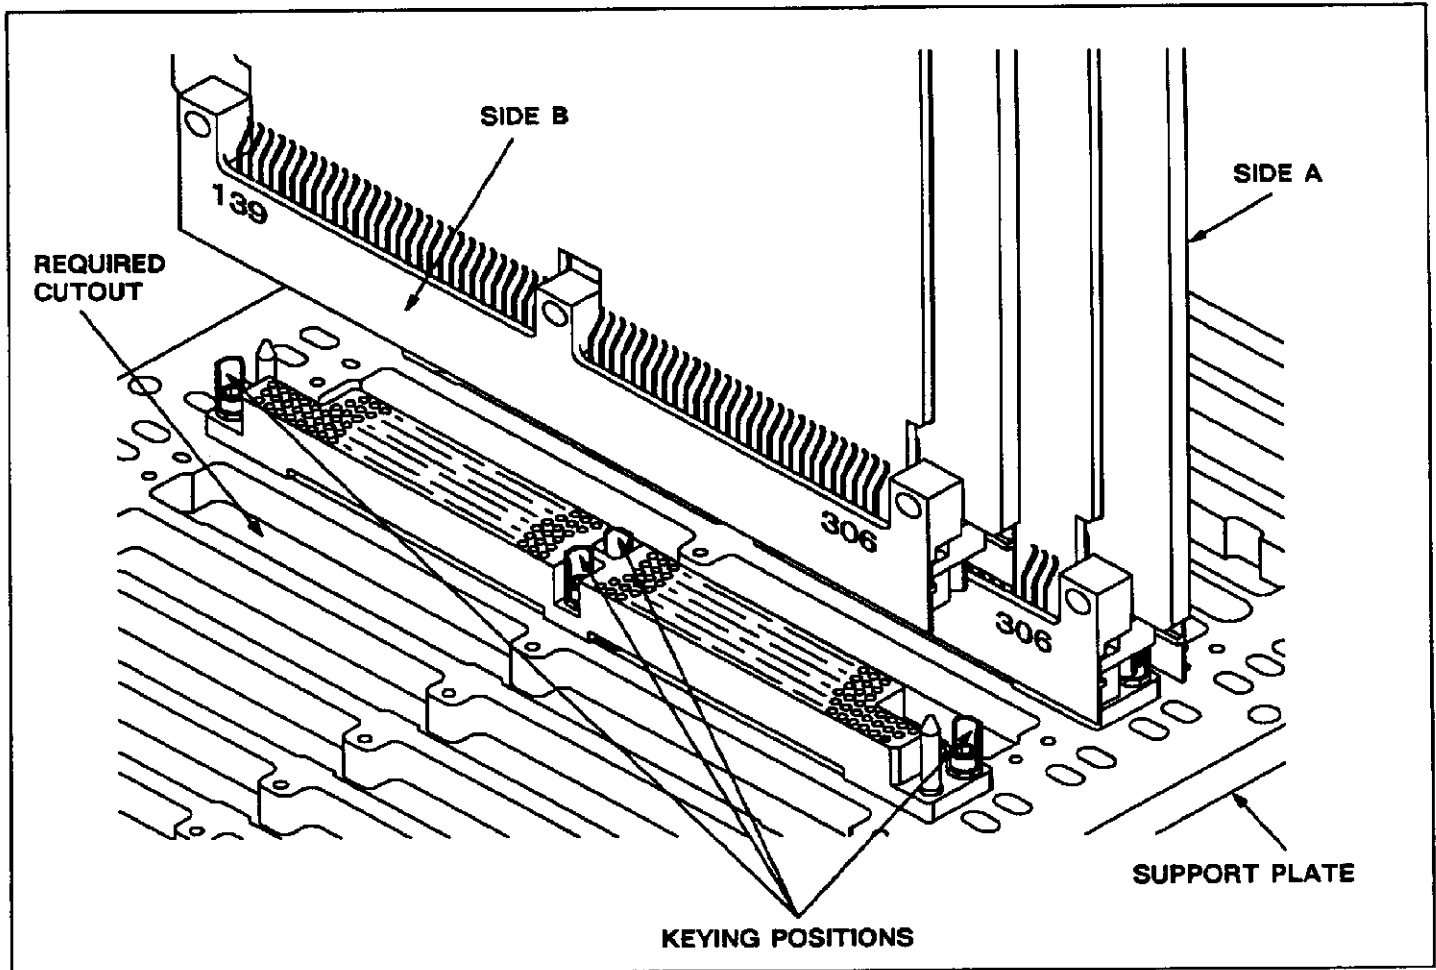

Fig. 4
The shell assembly consists of two halves which are secured over the soldered plug connector assembly to form a stabilizer, pin protection, and to provide .010-in. float for the board. The shell halves (designated as Side "A" and Side "B" in Figure 4) are designed to be placed over specific sides of the plug connector.
2. Position the receptacle over the guide pins of the motherboard and carefully begin to insert the receptacle contact tails through the support plate cutout (see Figure 4 for orientation) and into their appropriate pc board holes. As the alignment wafer contacts the support plate, it will begin to move toward the connector housing.